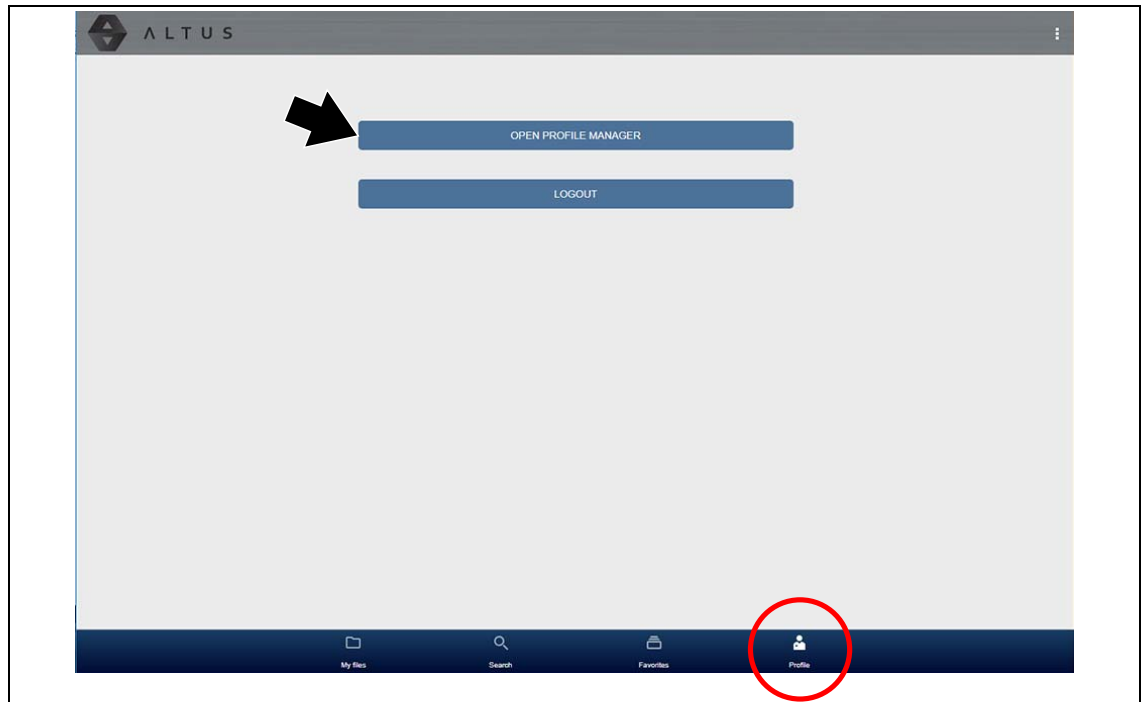

Figure 8-14
- Open Profile Manager (Figure 8-14), see Using Profile Manager on page 52
To open the Profile Manager screen, select **Profile** from lower toolbar, then select **Open Profile Manager** (Figure 8-14).